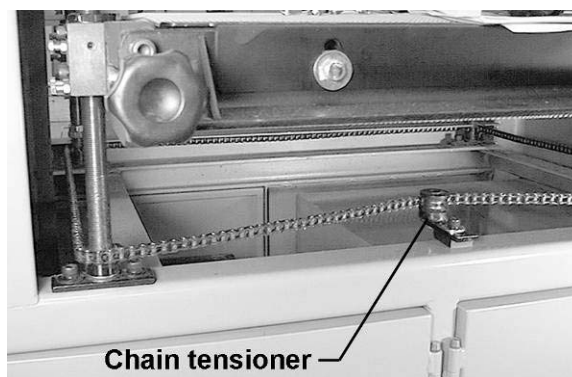

Figure 17
2. Loosen the socket head cap screw on the chain tensioner (Fig. 17) and slide the chain tensioner assembly forward to slacken the chain.